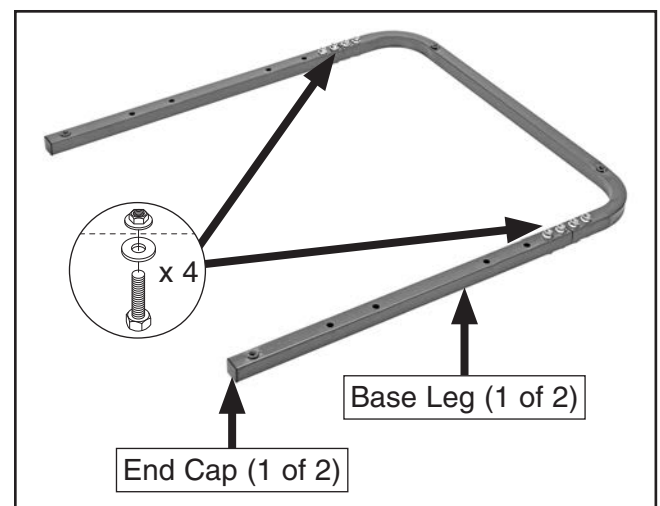

Figure 4. Base legs attached to base arch and end caps installed in legs.
3. Attach (2) base legs to base arch (see **Figure 4**) with (4) $\frac{5}{16}$ "-18 x $1\frac{1}{4}$ " hex bolts, $\frac{5}{16}$ " flat washers, and $\frac{5}{16}$ "-18 flange nuts. Only hand-tighten for now.
4. Install (1) end cap in the end of each base leg (see **Figure 4**).